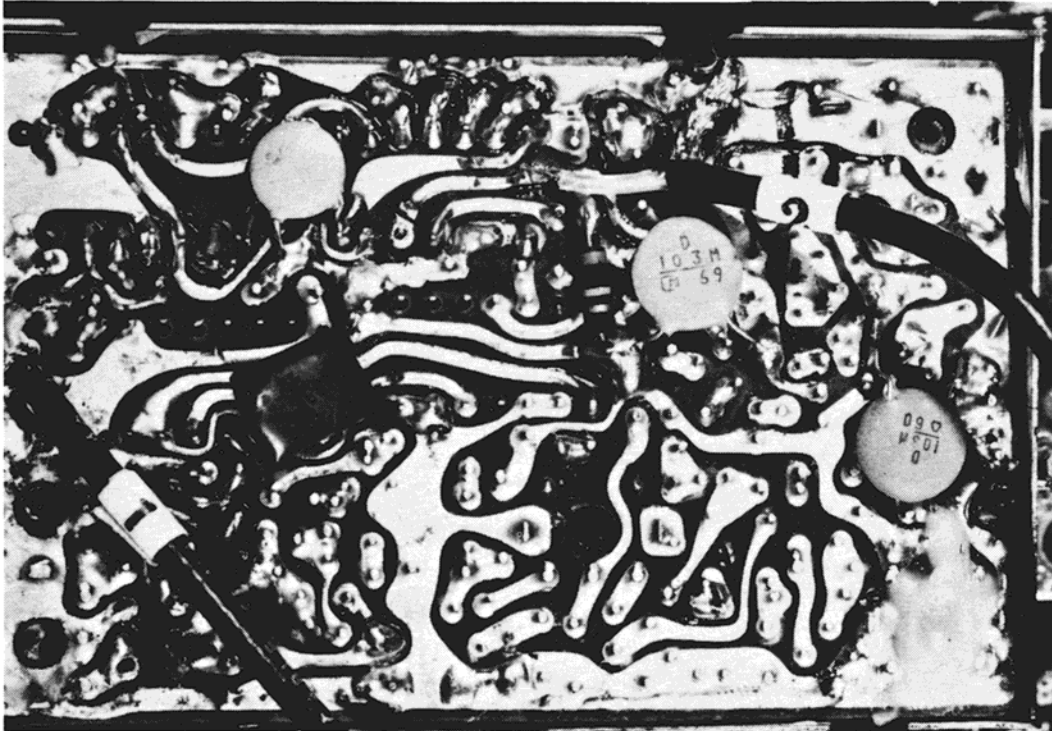

Fig. 20 — DS-400 Installation to SBE
5. Connect the center of coax 2 to the foil trace that was connected to pin 13 of IC901. (See Fig. 20).